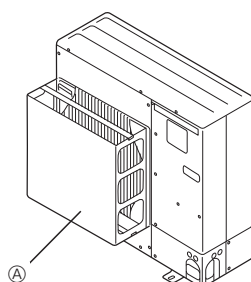

Fig. 3-4
- ② Install an optional air guide if the unit is installed in a location where strong winds from a typhoon, etc. may directly enter the air outlet. (Fig. 3-4)